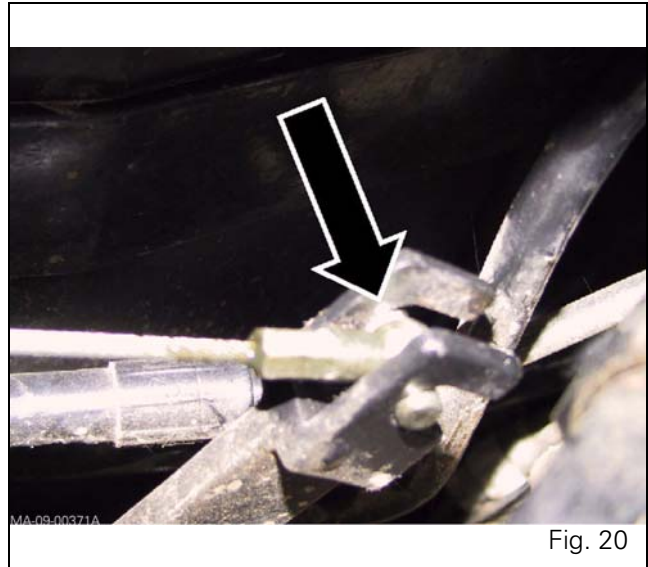

Fig. 20
15. Attach handbrake cable to its holder (Fig. 20).